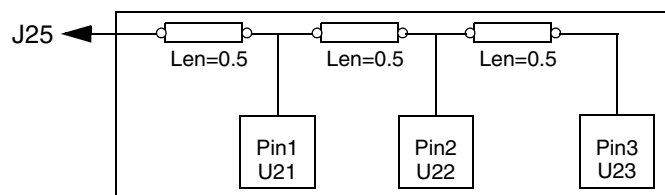

Figure 7 Circuit Connection for EBD Example
In Figure 7, CompU22\_ebd and CompU23\_ebd are added if U22 and U23 occur in [Reference Designator Map].
**Note:** If a component pin is not found and it is not a terminal node in the EBD path, then the name is used to designate the related node. For example, in Figure 7 on page 90, if U22\_2 (here, 2 is the pin name) does not exist, then the node name will be ebd\_U22\_2.
If the component pin is a terminal node in the EBD path and is not found, then the node and the associated section will not be added into circuit. For example, in Figure 7, if U23\_3 does not exist, then the section between Pin2 and Pin3 will be ignored and U22\_2 is the terminal node.